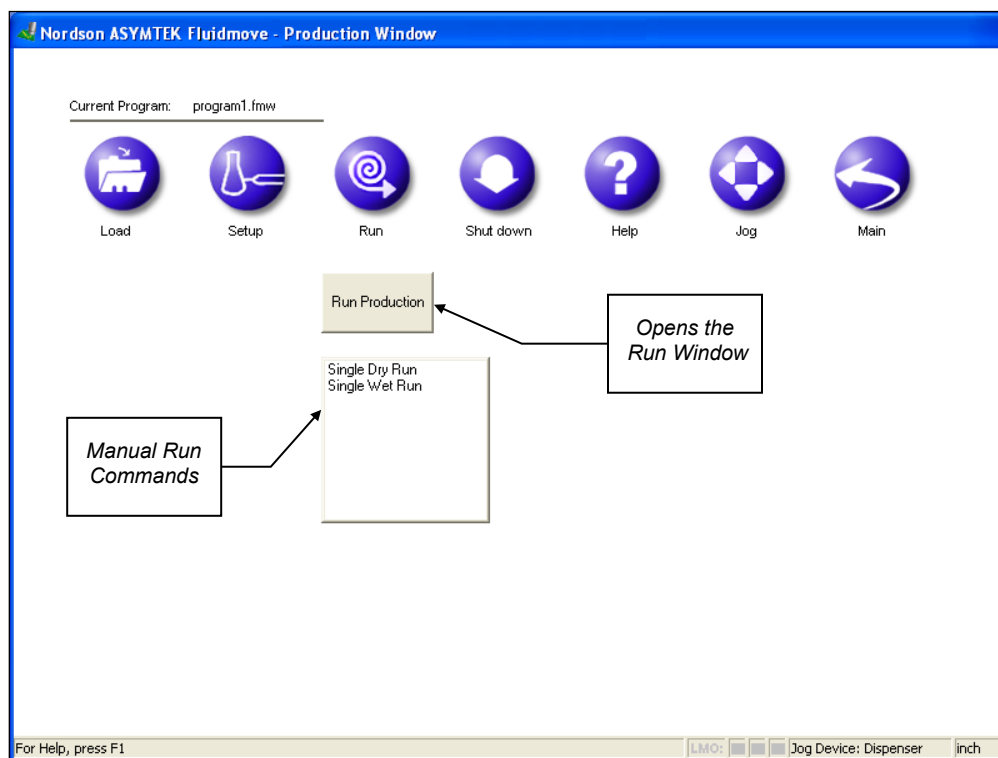

Figure 4-17 Run Production
- ▶ The **Run Production** button appears in the Production Window, along with the manual run commands (Figure 4-17).